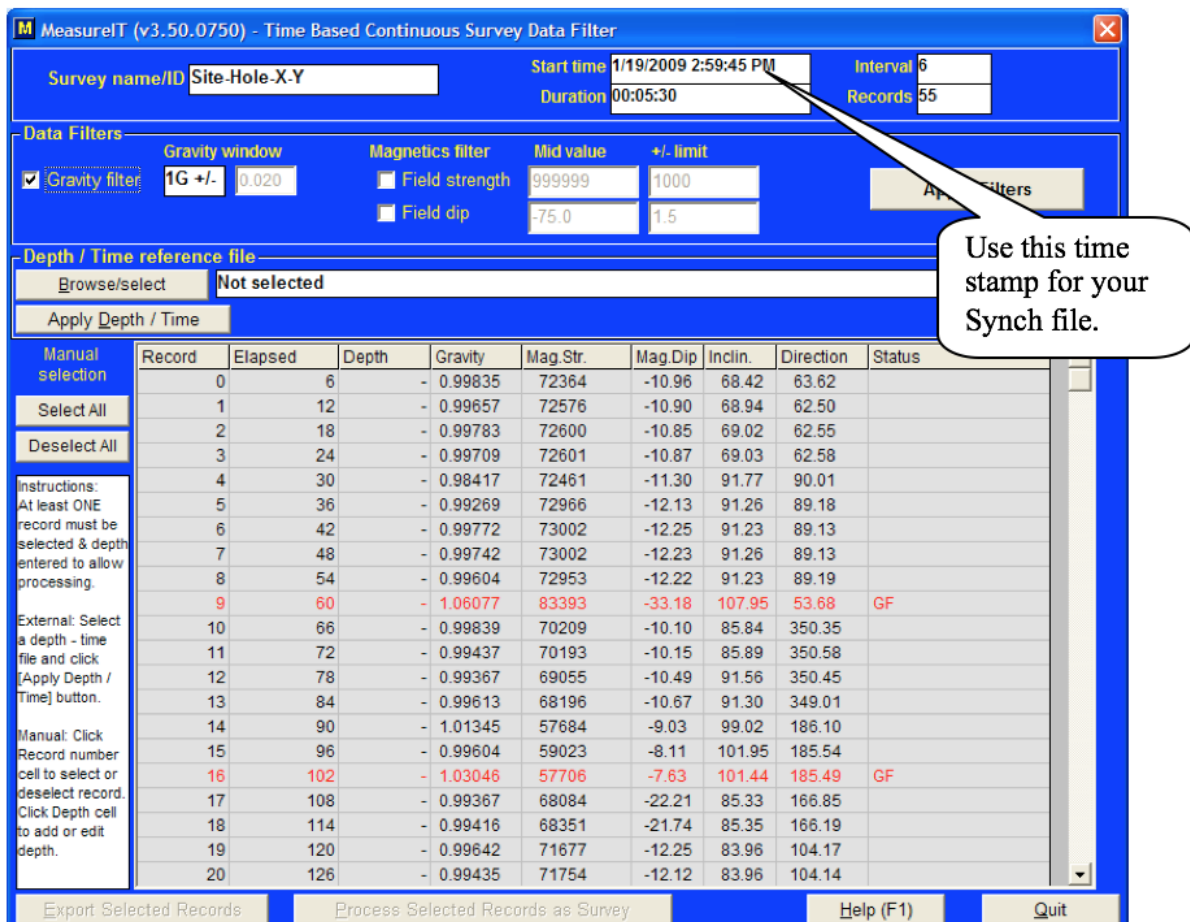

Figure 13 Preliminary downloaded data screen
4. After downloading the data processing screen appears (Figure 13). This is where you will select the synchronization file.
8. Click the **Process Selected Records as Survey** (Figure 13). A file named {your survey name}_FLT.svy is created. This will calculate the values for Magnetic Tool Face (MTF), the primary information IODP uses to orient cores, as well as a variety of other data.